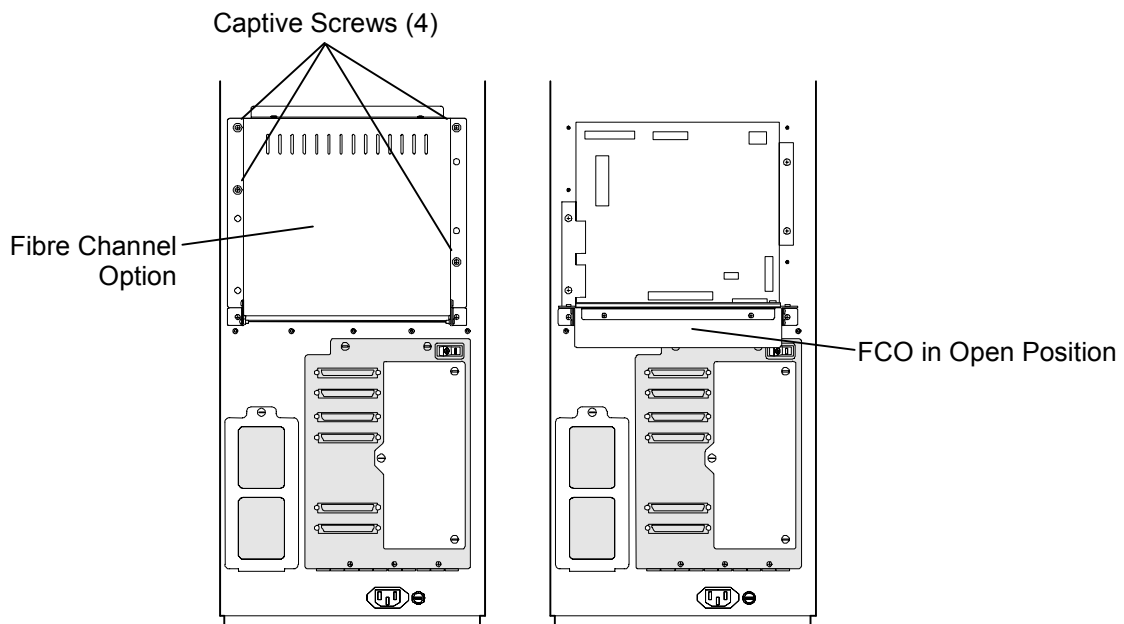

Figure 9-2 Fibre Channel Option in Closed and Open Positions (Type A Shown)
4. Using a Phillips screwdriver, loosen the four captive screws on the FCO (see Figure 9-2) and carefully guide the FCO backwards as it pivots on the hinges and comes to its open position. See Figure 9-2.